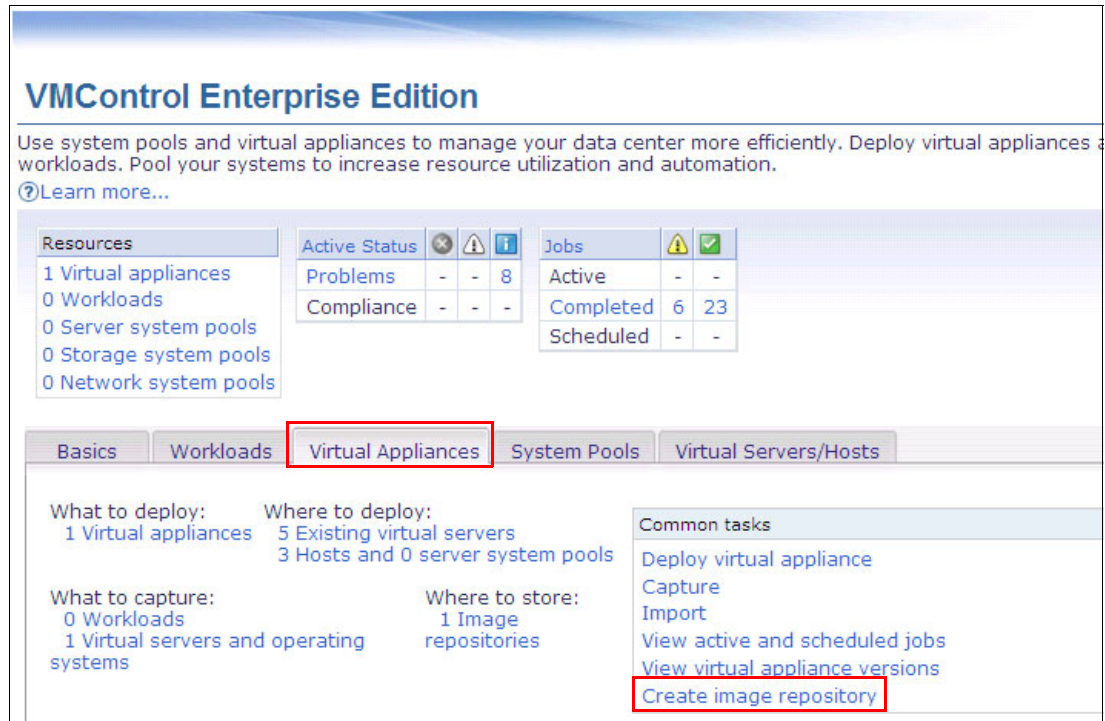

Figure 9-49 Create image repository
2. Click **Create Image Repository** under Common tasks as shown in Figure 9-49.